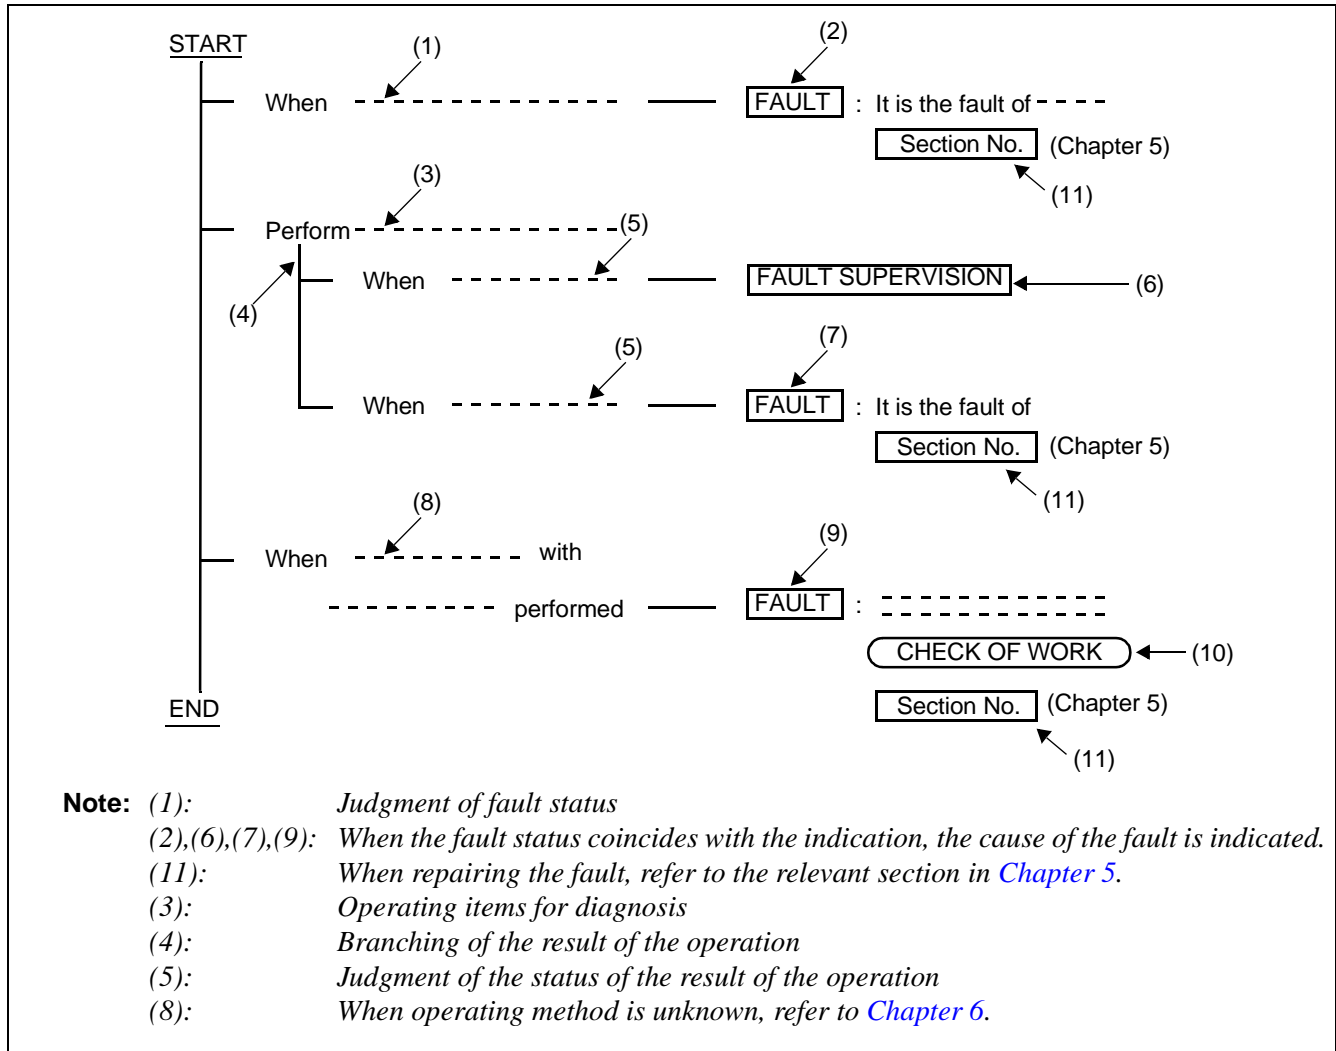

Figure 2-24 Diagnostic Work Items and Symbols Example
- How to proceed with the diagnosis work is explained in Figure 2-24.
STEP 1 Determine whether the fault coincides with the fault status (1) in Figure 2-24.
STEP 2 If the fault status does coincide, the fault is indicated by (2). Repair the fault by referring to the relevant section in Chapter 5. Otherwise, proceed to (3).
STEP 3 Perform the work indicated by (3). The result of the work (3) is broken down as indicated by (4).
STEP 4 Determine whether the result of work (3) coincides with the status indicated by (5). If so, the fault(s) is/are indicated either by (6) or by (7). If not, proceed to the next Step.
STEP 5 Perform the work indicated by (8), and if the result of the work is the same as the status indicated, the fault is indicated by (9). If the fault repair work indicated by (9) affects another normal line, recheck the work as indicated by (10).